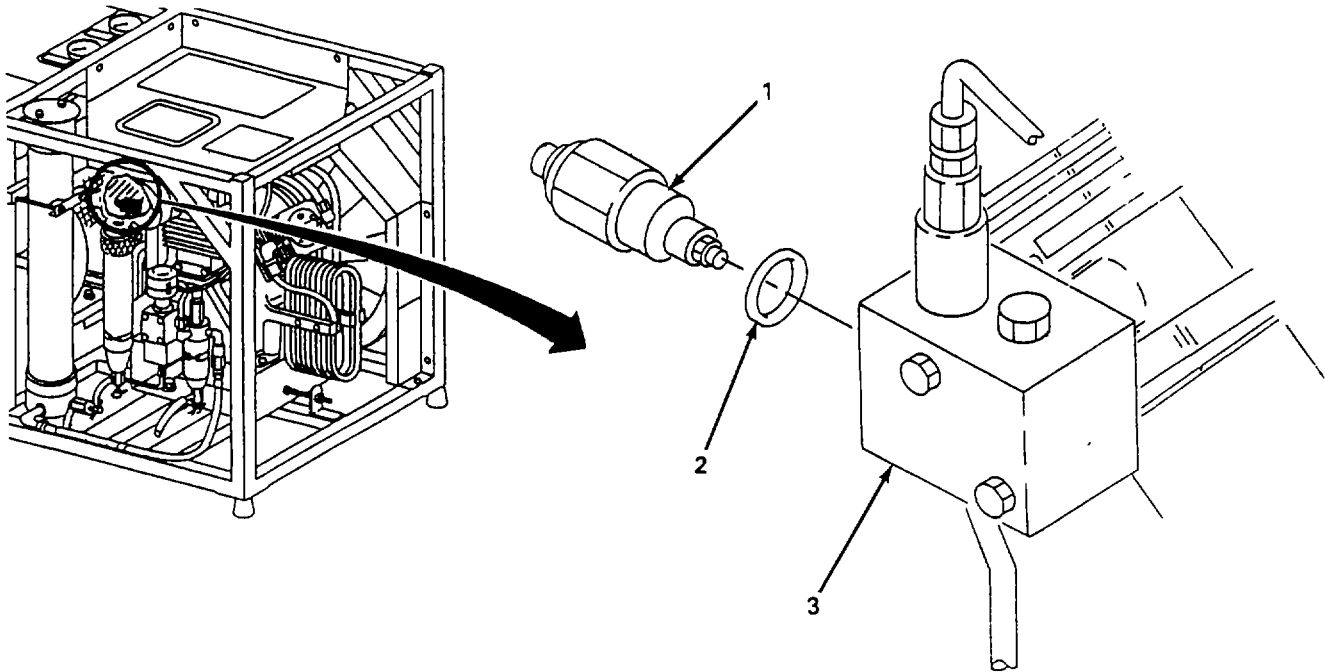

Figure 5-26. Oil Relief Valve, Replace.
(1) Replace oil relief valve. (figure 5-26)
- (a) Ensure mating area between oil relief valve (1) and oil pressure regulator (3) is clean and all dirt and debris is removed.
- (b) Remove oil relief valve (1) and preformed packing (2) from oil pressure regulator (3). Discard preformed packing (2).
- (c) Install new oil relief valve (1) and new preformed packing (2).